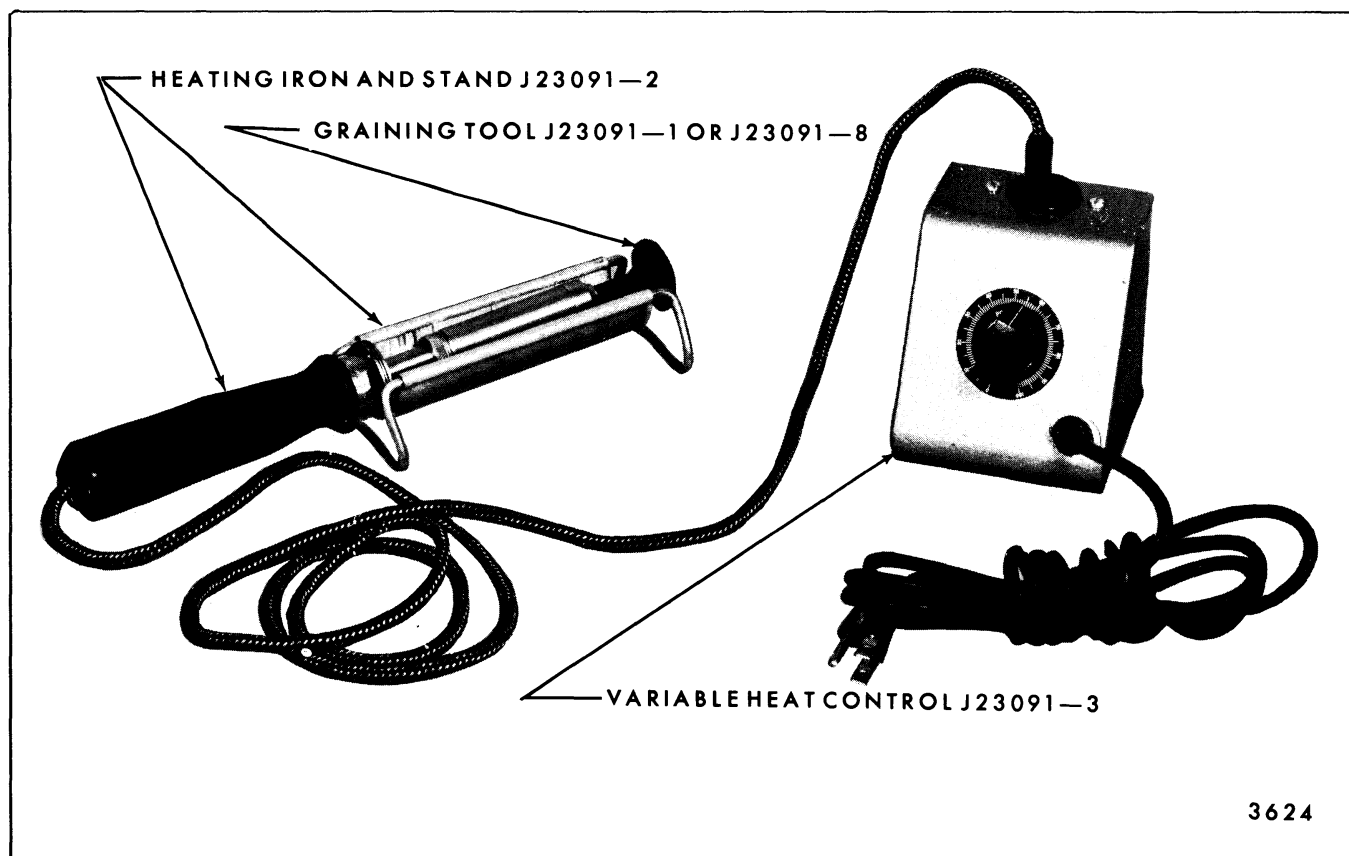

Fig. 8-30-Fabric Roof Cover Repair Tool
1. Repair utilizing a teflon coated metal graining tool, heating iron, and a variable heat control unit, Figure 8-30.
equivalent) and is applicable for 1973 and prior model year fabric roof cover material (Fig. 8-30).